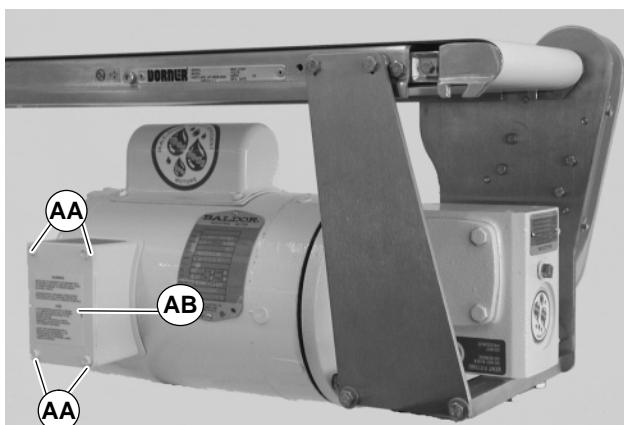

Figure 34
1. Loosen terminal box screws (AA of Figure 34) and remove cover (AB).